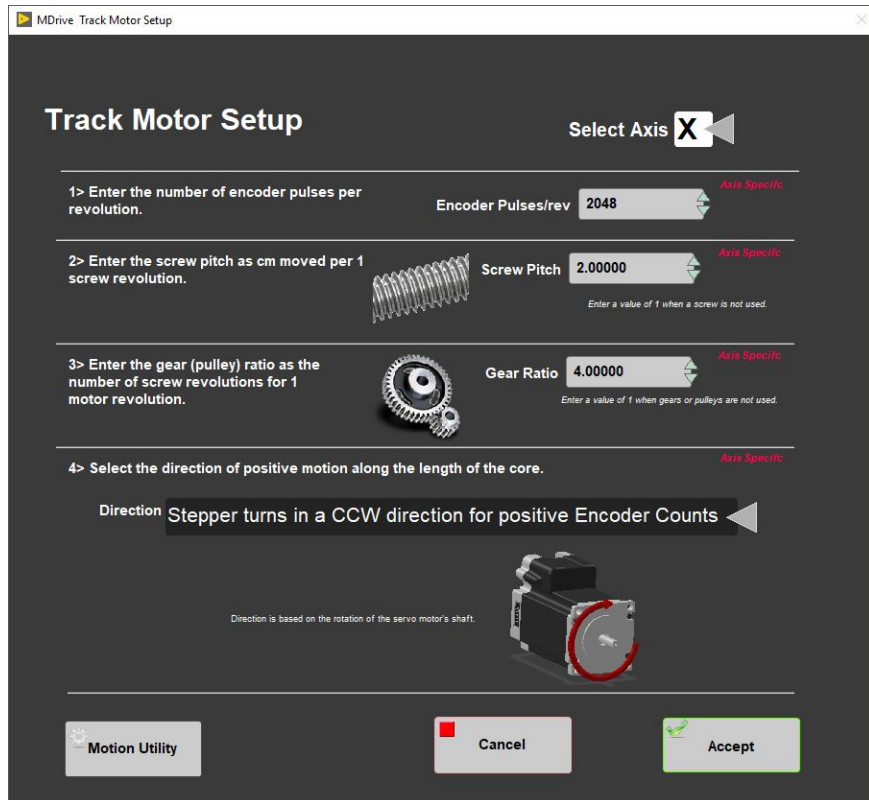

Figure 31. NGR Motor and Track Options Setup window
- Make sure to use the values shown for the NGR (Figure 31).